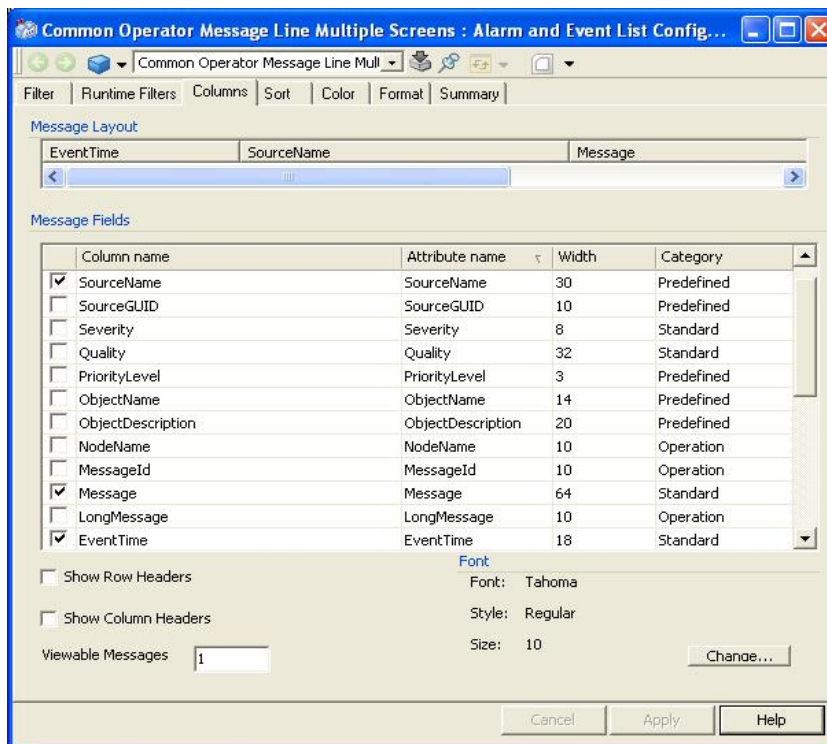

Figure 37. Common Operator Message Line Multi-Screen - Alarm and Event List Configuration
6. Configure the Operator Message Line by opening the Alarm and Event List Configuration aspect (located in the Library Structure below the Multi Screen Configurations object) and make your settings. See Figure 37.
3. Configure the Operator Message Line by opening the Alarm and Event List Configuration aspect (located in the Library Structure below the Multi Screen Configurations object) and make your settings. See Figure 37.